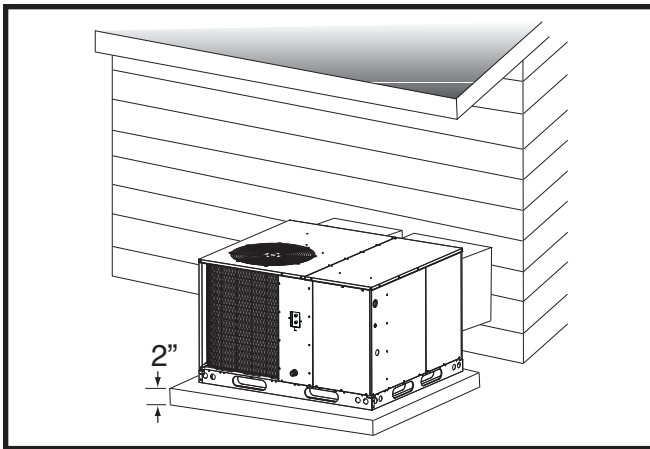

Figure 3. Ground Level Installation
- A suitable mounting pad (Figure 3, page 8) must be provided and separate from the building foundation. The pad must be level to ensure proper condensate disposal and strong enough to support the unit's weight. The slab height must be a minimum of 2" (5cm) above grade and with adequate drainage.